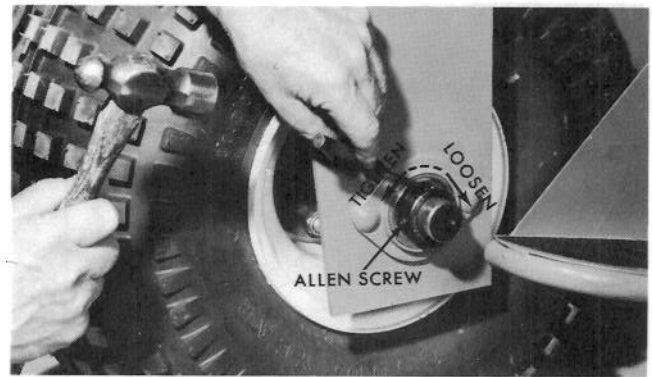

Figure 22
4. Remove the lock collar on the left side of the fork. Loosen the allen screw, then use a hammer and punch to tap the collar clockwise to loosen (Fig. 22).